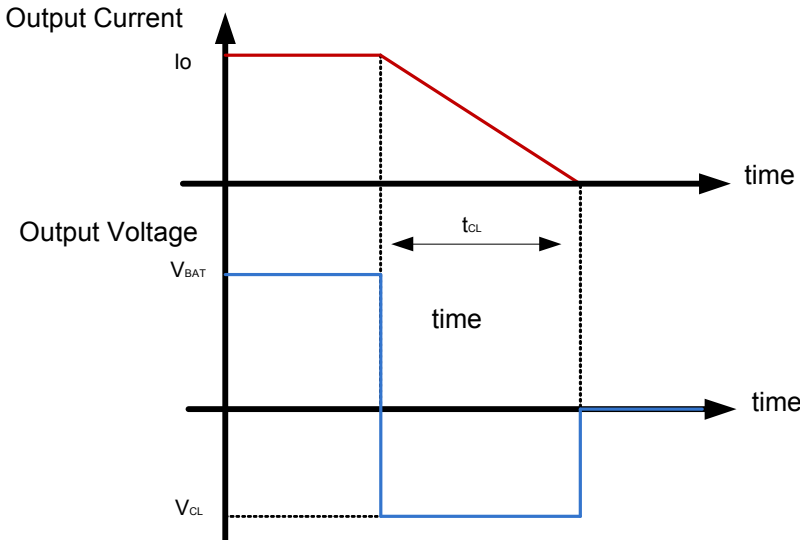

Figure 21. Simplified Negative Output Clamp Waveform
In case of an inductive load (L), the energy is dissipated after the turn-off inside the N-channel MOSFET. When $t_{CL} (=I_o \times L / V_{CL}) > 1.0$ ms, the turn-off waveform can be simplified with a rectangle as shown in Figure 21.